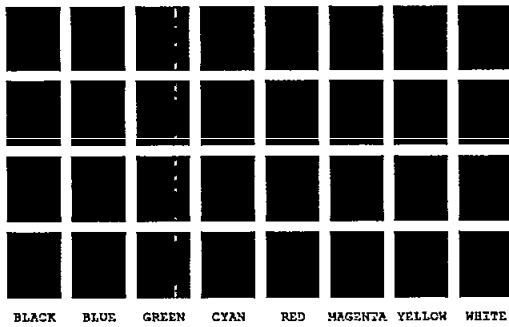

Figure 3
- (4) Confirm that the screen displays test graphic pattern as shown in Figure 3 on next page.
- (5) Carefully adjust the screen contrast by pressing "←" and "→" keys to obtain the best contrast.
- (6) Fully turn the LCD Contrast Control to the left (and right) and check if the test pattern goes off on brighter (and darker) background.
- (7) Press "Space" key.
- (8) Press "Y" key. (Or press "N" key if readjustment is required and repeat from step (5).)